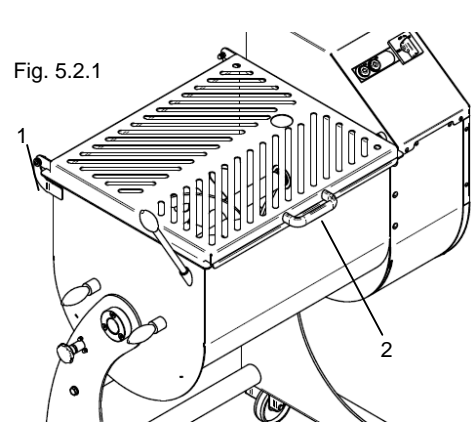

Fig. 5.2.1
5.2 - Checking protections and safety features and their efficiency 1 - Rotor Protection grille (Fig. 5.2.1)
2 - Micro-switch (Fig. 5.2.1)